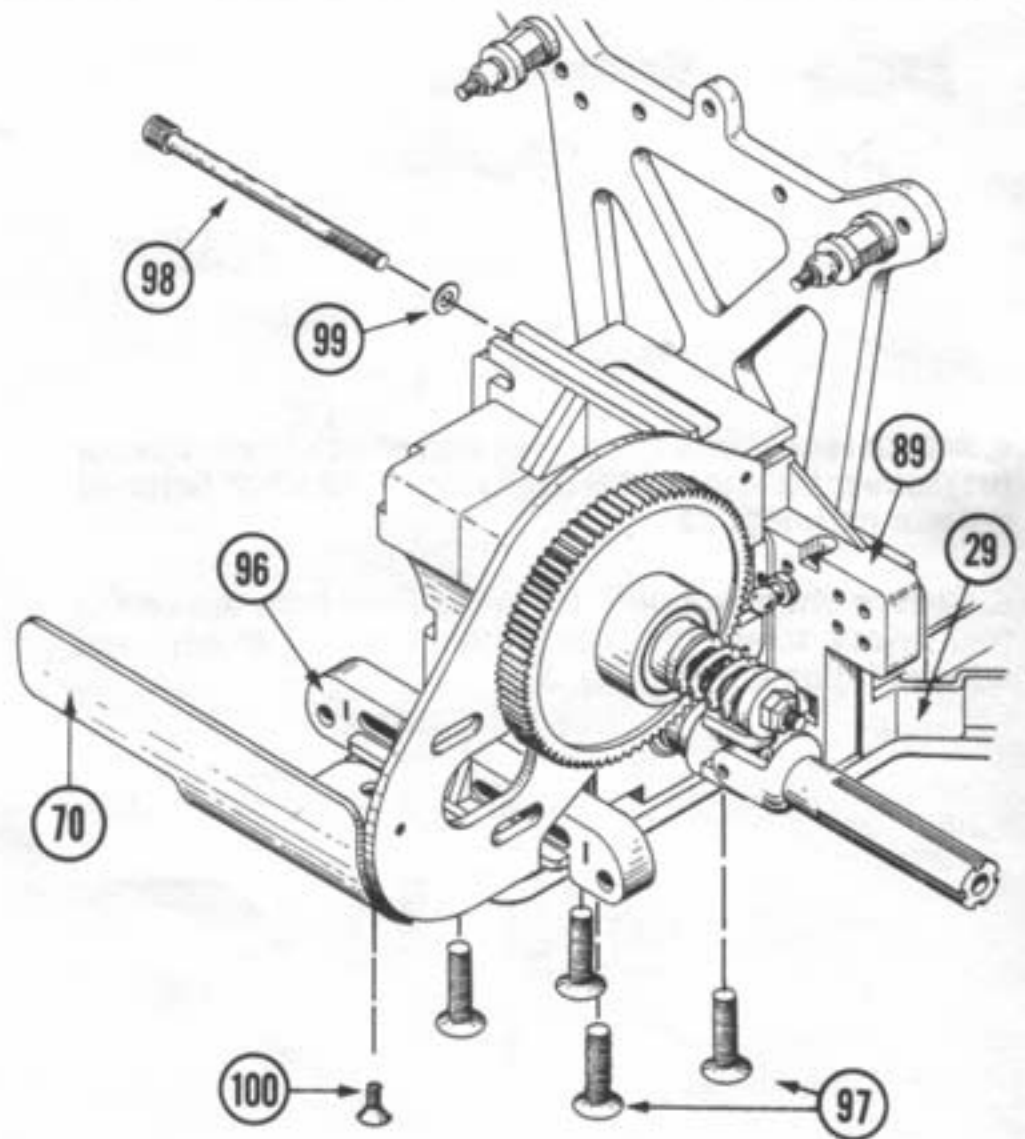

Figure 34
8. While holding rear pivot support (96) in place under rear of gearbox, position the gearbox between the ears on the rear bulkhead (89). Fig. 34
9. Secure gearbox and rear pivot support (96) to chassis (29) using four 8-32 x 1/2" steel flathead screws (97). Fig. 34
10. Secure gearbox to rear bulkhead (89) using 4-40 x 1 3/4" caphead screw (98) with a #4 washer (99) under the head. Fig. 34
11. Attach motorplate (70) to the chassis (29) using a 4-40 x 1/4" flathead screw (100). Fig. 34